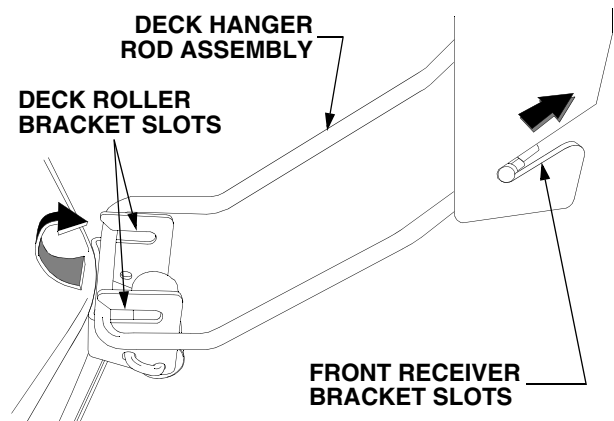

Figure 64
- Roll the deck forward to disengage the deck hanger rod from the slots of the deck front roller bracket. Lift the deck hanger rod and slide out of the slots in the front receiver brackets. See Figure 64. Store the deck hanger rod assembly with the deck to avoid misplacing it.
- While noting the forms (bends) in the rod are correctly positioned, slide the deck hanger rod into the slots in the front receiver brackets. Refer to Figure 64.
- From either side of the tractor, lift the deck hanger rod and roll the deck forward until the hanger rod aligns with slots of the deck front roller bracket. Lower the hanger rod into the front roller bracket slots and slide the deck rearward to engage the rod fully forward in the slots of the roller bracket. Refer to Figure 64.